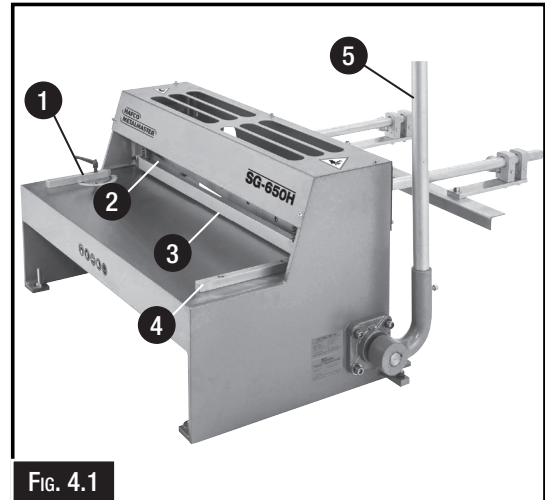

Fig. 4.1
1. **Adjustable Angle Guide:** Adjusts from 0° to 180° for making angled cuts. (Fig. 4.1)